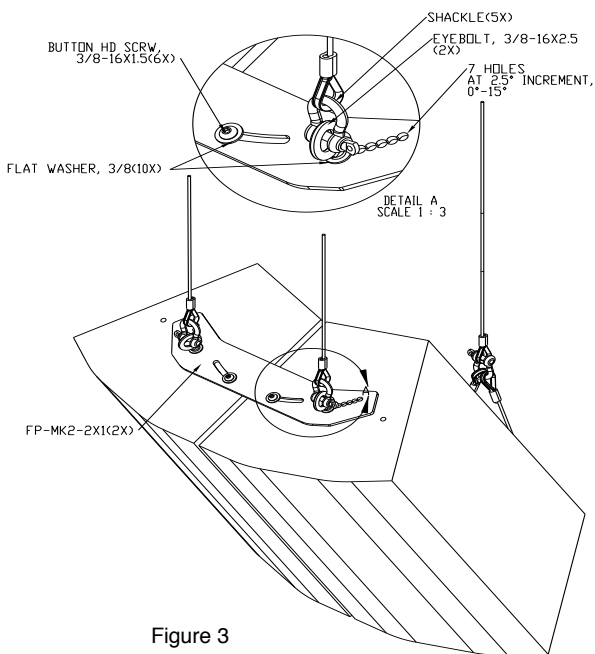
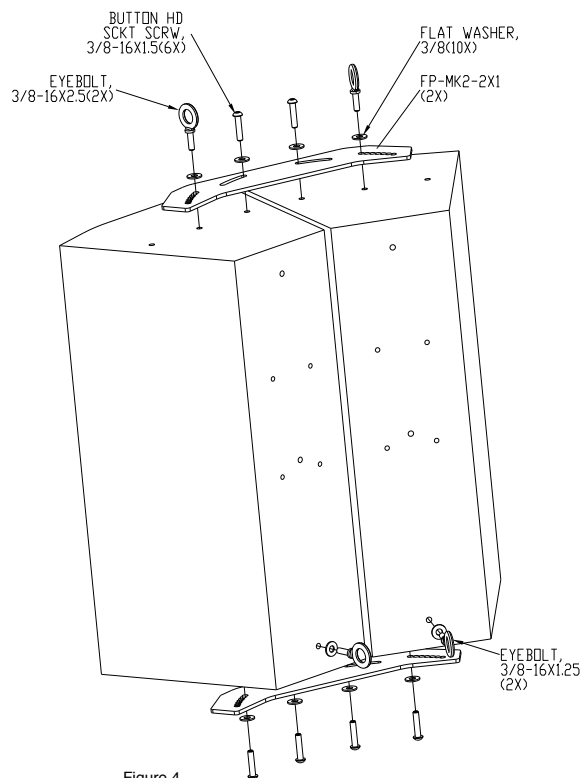

Figure 3
Figure 4
Step 5: Use the eyebolts on top of the speakers for primary suspension points. Use the rear eyebolts for pull back points to adjust the tilt angle of the cluster. Bridle the two pull back points if necessary to create a single pull back cable (Figure 3, Figure 4).